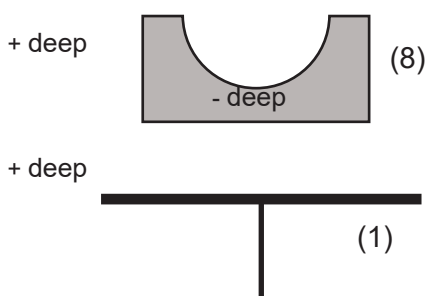
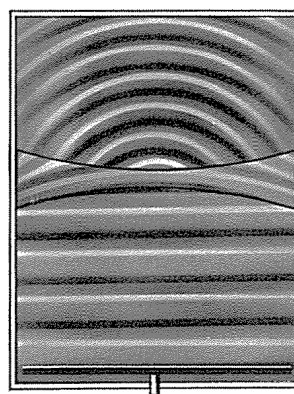

Fig. 20
Fig. 21
Place the flat concave body (8) in the position shown in figure 20. To reduce the effects of surface tension, add a few drops of hand soap (not supplied) and dissolve it in water, being careful not to make foam. The emerging wave is circular and divergent (fig. 21). To observe the curvature of the wavefront it is necessary that the water level above the convex body is very low (less than 1 mm).